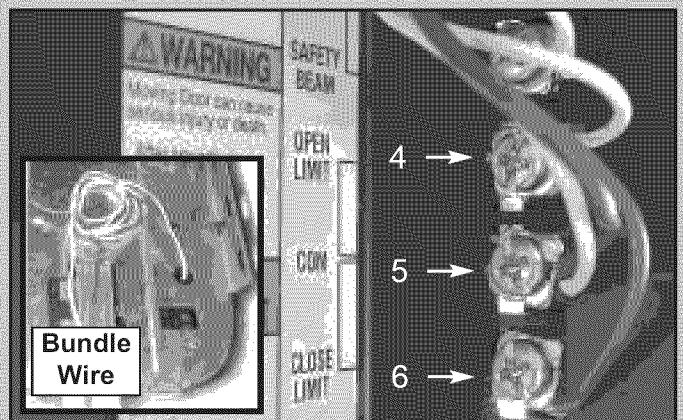

FIG. 1-14 Attach wire at power head terminals.
- Attach limit switch wires to terminals on power head (Fig. 1-14).
- Bundle extra wire and lay it on top of power head (Fig. 1-14 inset).